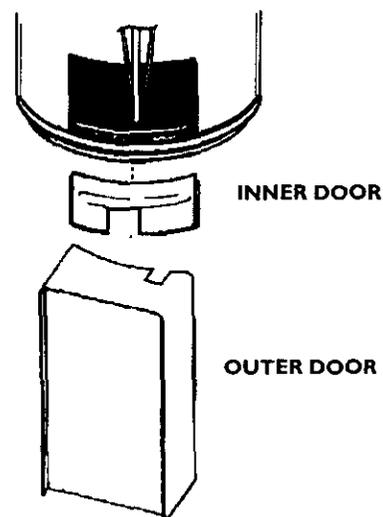

Figure 13
3. Remove outer door covering gas thermostat and burner assembly. (Figure 13, Page 25)
11. Replace inner door. (Figure 13, Page 25)
14. Replace the outer door. (Figure 13, Page 25)
2. Remove outer door covering gas thermostat and burner assembly. (Figure 13, Page 25)
5. Replace outer door. (Figure 13, Page 25)